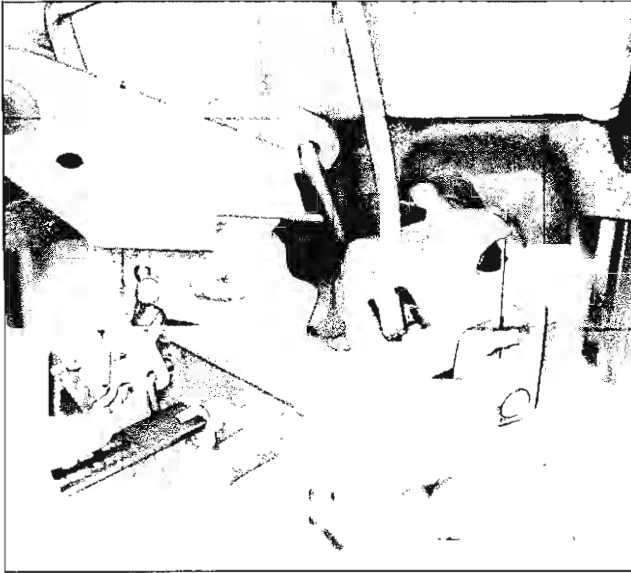

Fig. 62—Secondary Throttle Lockout Adjustment
Secondary Throttle Lockout Adjustment (Figs. 62 and 63)
1. Position fast idle cam and secondary lockout lever with choke valve partially closed, Figure 62.